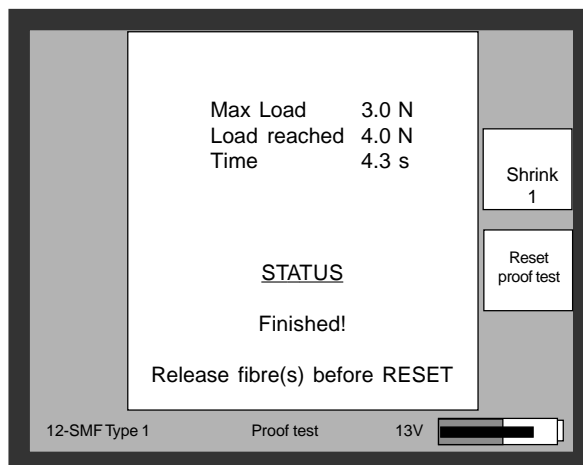

Fig. 8 - Monitor display when program finishes
7. The proof test program finishes and the monitor appears as shown in fig. 8.